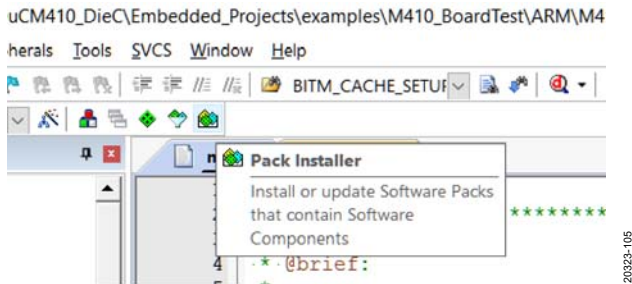

Figure 5. Pack Installer
1. Open the CMSIS pack installer as shown in Figure 5. When the pack installer is opened for the first time, it may take a few minutes to update the pack installer.